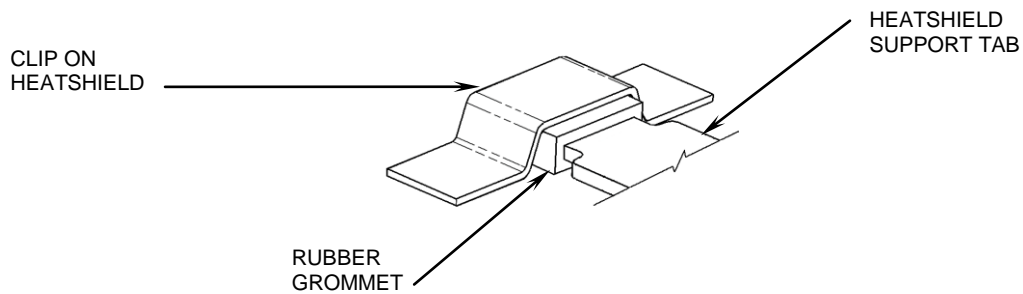

FIGURE 3
5. Install the mufflers onto the stock headpipes (position the mount bracket towards the inside of the frame) while aligning the heatshield support tabs with the stock heatshield cover (see Figure 3). To do this, gently slide the muffler forward while slightly squeezing the heatshield together to align the tabs with the heatshield clips. There will be a uniform gap between the heatshield and muffler when properly installed.